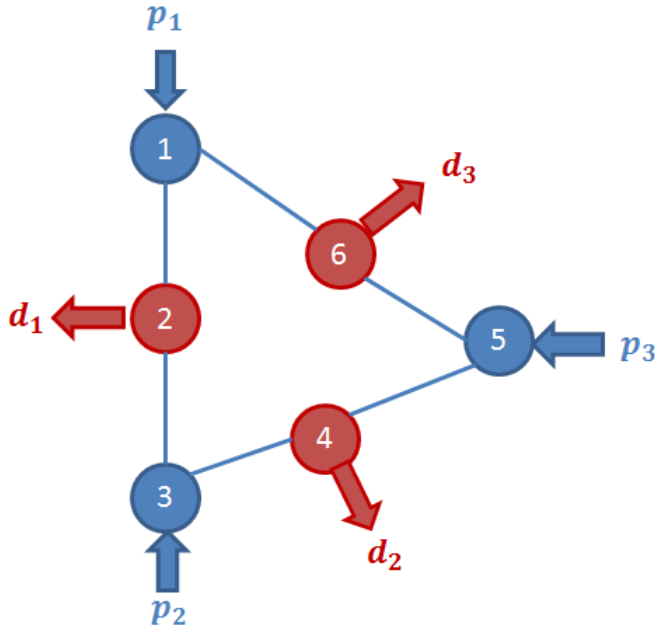

Figure 3: Electric network for Question 3.
4. Consider the following electric power network shown in Figure 3. This network is taken from a real-world electric power system. Electricity generators are located at nodes 1, 3, and 5 and producing p_1, p_2, p_3 amounts of electricity, respectively. Electricity loads are located at nodes 2, 4, and 6 and are consuming d_1, d_2, d_3 amounts of electricity, respectively.